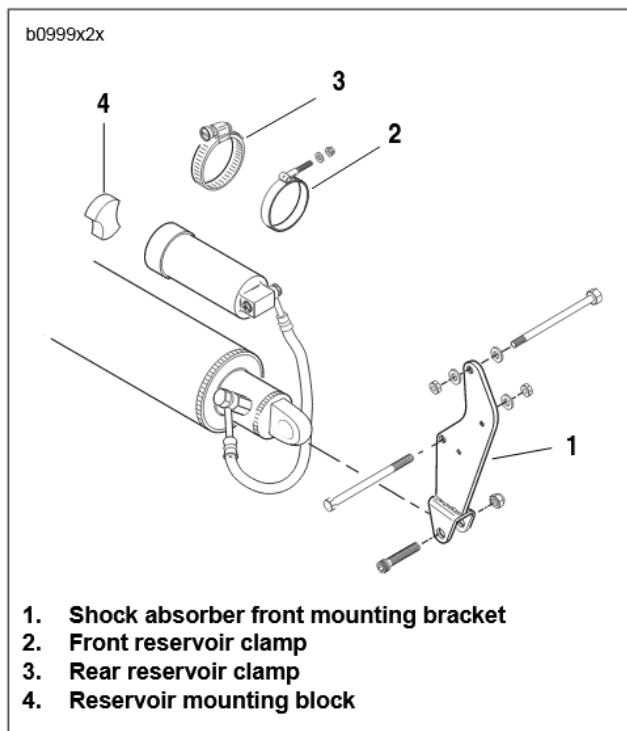

Figure 2. Front Shock Mount
8. See Figure 2. Remove allen screw (metric) and locknut on front shock eye. Discard locknut.
9. Remove (2) crankcase bolts securing the front shock mounting bracket. DO NOT discard locknuts.
1. See Figure 2. Loosely install **new** front shock mount to crankcase with original front shock mount bolts, washers and locknuts. Do not tighten fasteners at this point. NOTE: Top bolt goes in from the left side, bottom bolt goes in from right side. Bottom bolt does not use washer under bolt head.
6. See Figure 2. Position front clamp over reservoir. Loosely install reservoir clamp to front shock mount with washer and **new** nylon locknut.